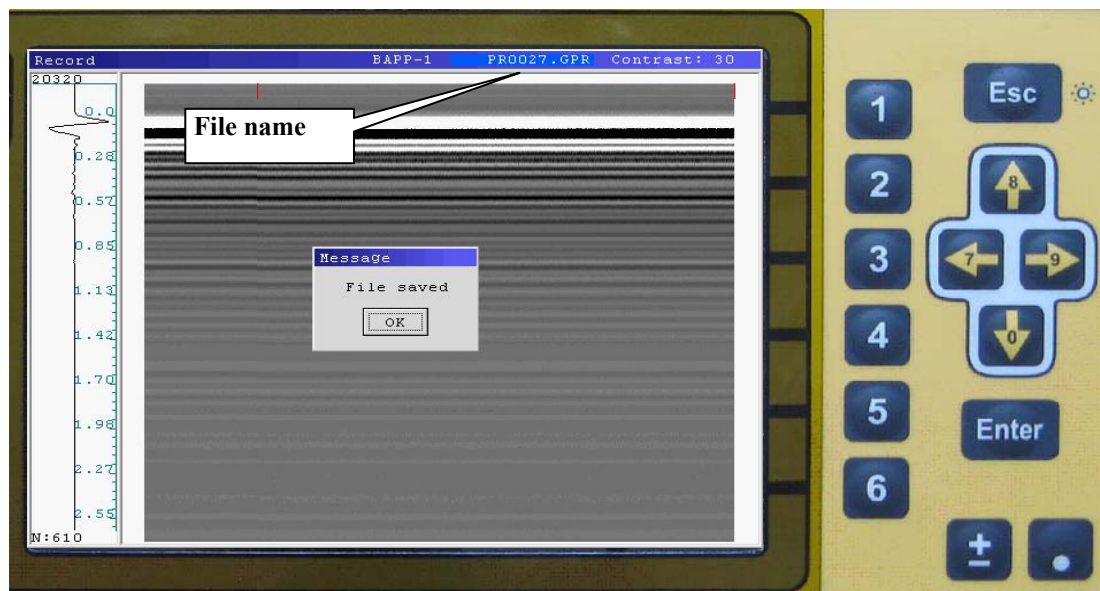

Figure 3.5.4. Saving file
4. Press «Esc» for save file and «Enter» for approval of saving (figure 3.5.4).